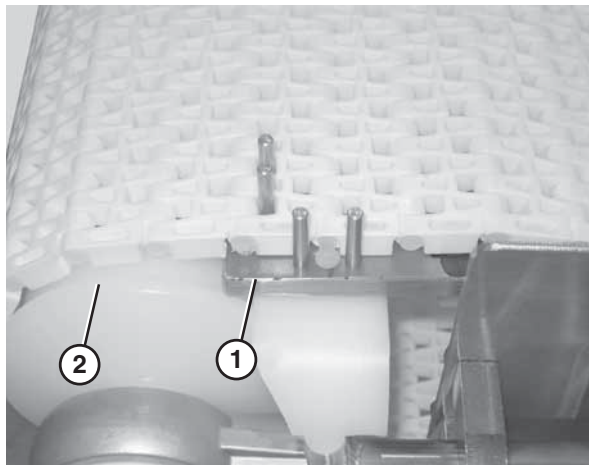

Figure 50
2. Secure the retaining head side of the belt. Use the belt removal tool (**Figure 50, item 1**) for 1" pitch belts. For all other belts, position the section of belt so that it is braced by the flanged puck (**Figure 50, item 2**).